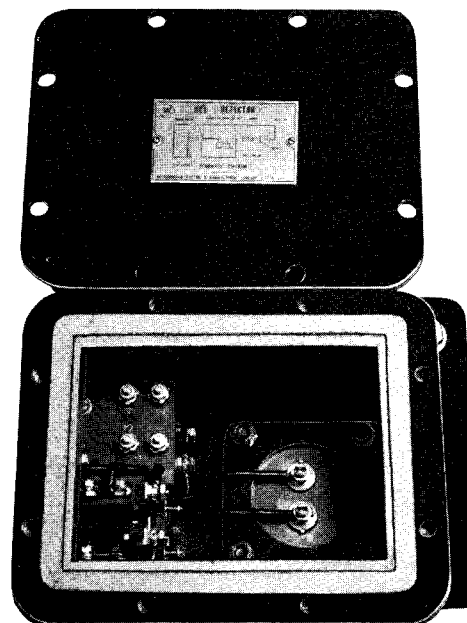

FIG. 2—INTERNAL VIEW OF “HCL” DETECTOR SHOWING PARTS IN PLACE
- (1) HCL detector with detector coil, relay and condenser mounted together as a single unit.
- (2) HCL detector with detector coil and relay—but the condenser mounted separately.
To install (1) make the conduit connections between the HCL detector housing and the supervisory point. One conduit connection may be used for the supply voltage and the other for the alarm circuit. Alarm contacts may be set to either make or break when the relay operates. Refer to Fig. 2. This contact is the right hand relay contact when looking down at the terminal panel inside the detector housing. For the proper connections refer to the diagram nameplate located on the cover of the detector housing.